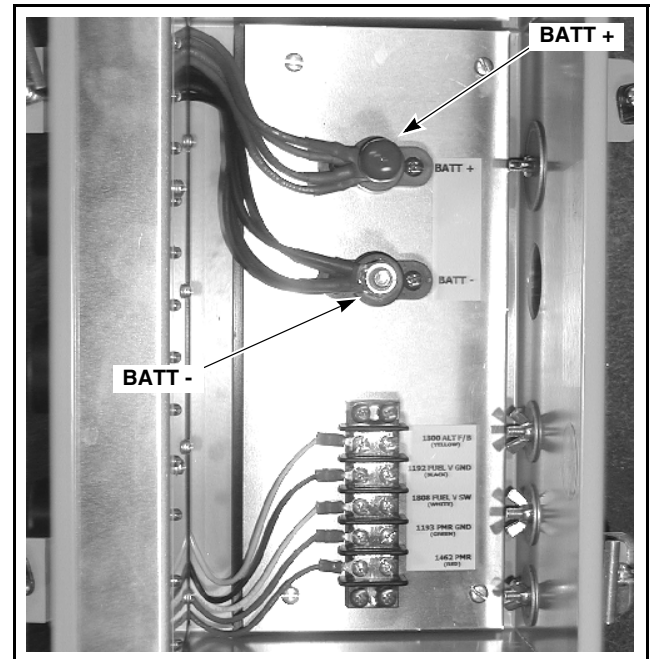

Figure 2.05-2 Power Distribution Junction Box (Extender Series Engines)
4. Attach the power ring terminal to the positive 3/8 inch stud located in the Power Distribution Junction Box (see Figure 2.05-2).